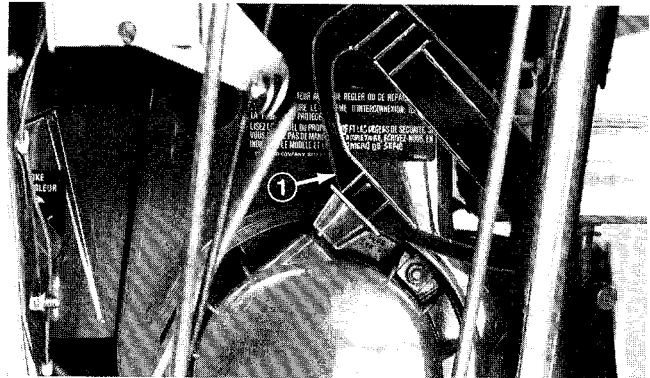

Figure 22
7. Grasp recoil starter handle (Fig. 22) and pull it out slowly until positive engagement results; then pull vigorously to start the engine. Keep firm grip on starter handle and return the rope slowly.